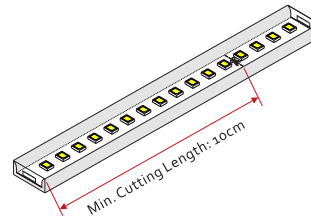

Fig. 3.2
- The minimum cutting length is 10cm (Fig. 3.2), and can be cut into various length (e.g. 30cm, 50cm, ... 5000cm Maxi.).